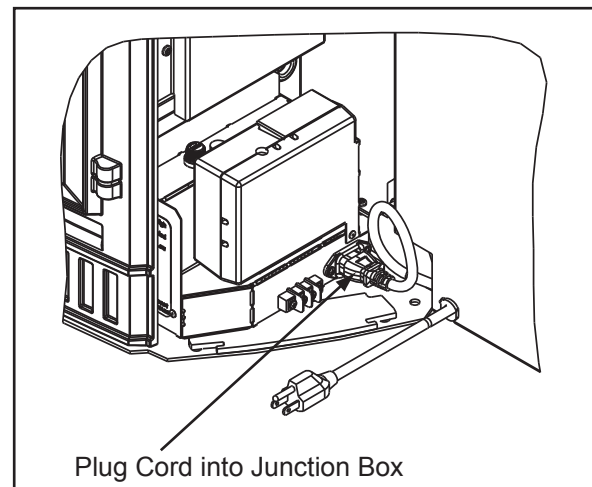

Figure 21.3
10. Plug cord into inlet on junction box routing the wire as shown in **Figure 21.3.**
10. Plug cord into inlet on junction box routing the wire as shown in **Figure 21.3 on page 21.**